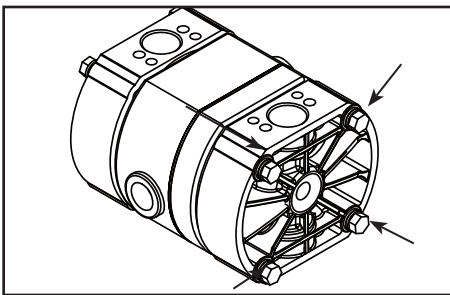

Figure 23
- Remove the retainer bolts from the out chamber and remove the out chamber (See Figure 23).